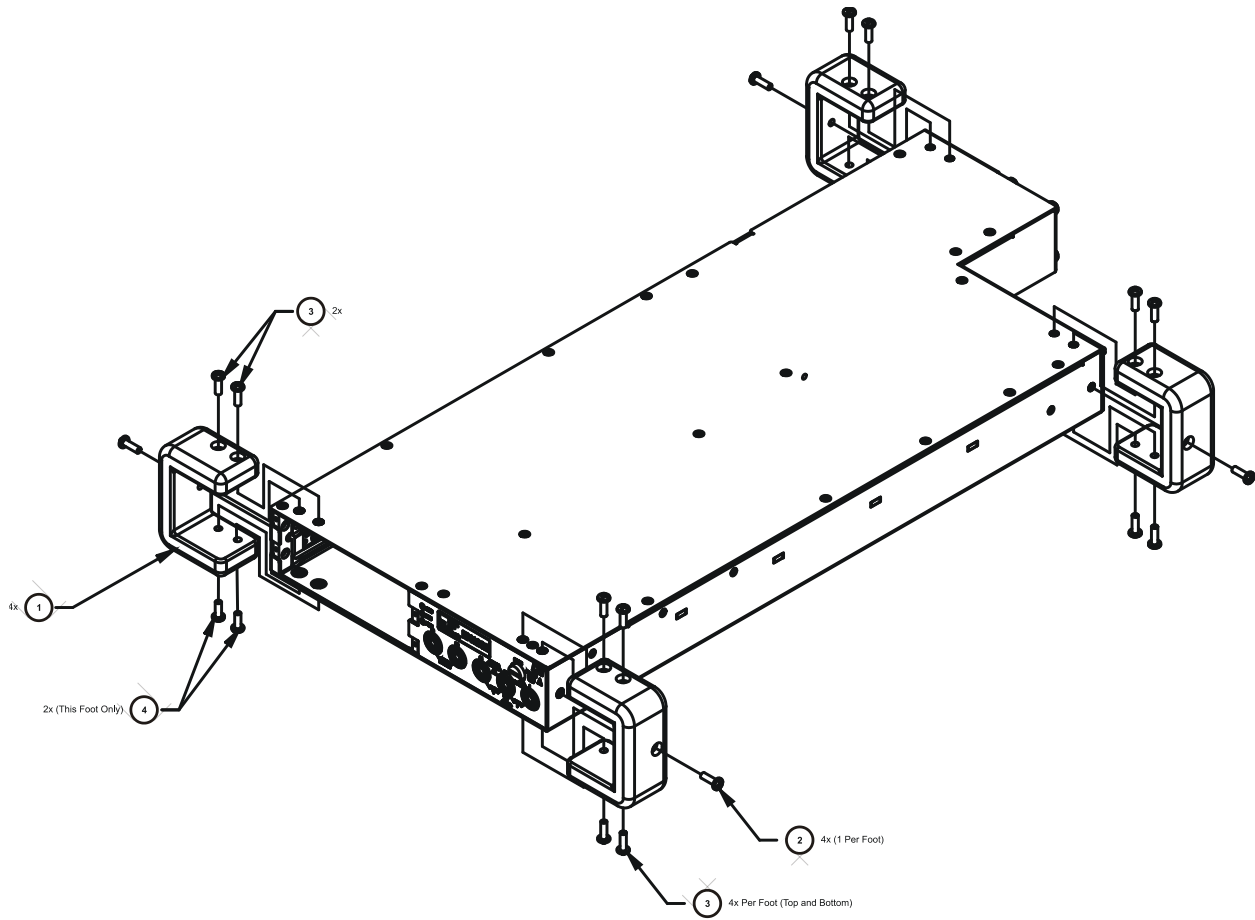

FIGURE 2-3: TABLETOP INSTALLATION DIAGRAM (EXPLODED FRONT VIEW)
- 2) Using Figure 2-3, locate the installation locations for each rubber foot.
- 3) Using the #2 Phillips screw driver, install the front left rubber feet using two (2) 6-32 x 7/16" pan head Phillips screws to secure the top and two (2) Screw, 6-32 x 3/8" pan head Phillips screws to secure the bottom of the foot. Use one (1) 6-32 x 1/2" pan head Phillips screw to secure side of this foot.
- 4) Using the #2 Phillips screw driver, install the four rubber feet using four (4) 6-32 x 7/16" pan head Phillips screws to secure the top and bottom and one (1) 6-32 x 1/2" pan head Phillips screw to secure side of each foot.